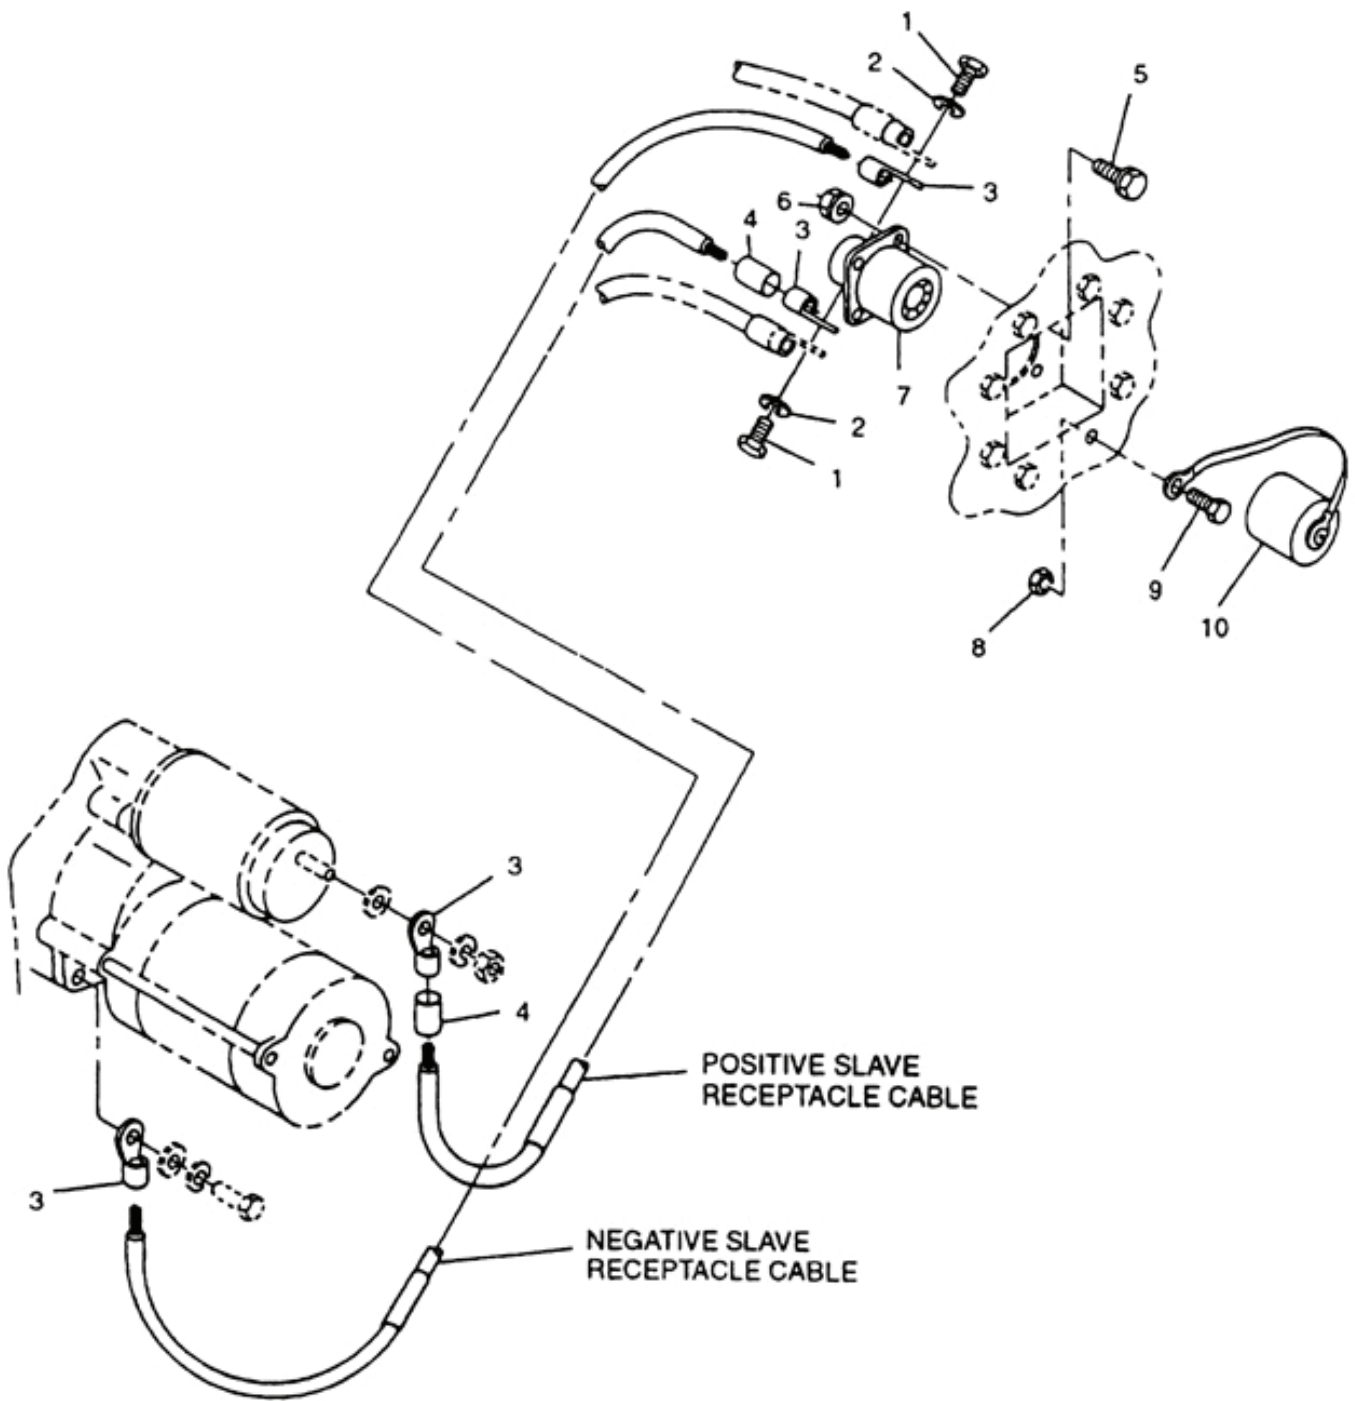

Figure 2-4. NATO Slave Receptacle and Cables.
- c. Open left side engine access door and tag and disconnect battery and slave receptacle cables from slave receptacle (7, Figure 2-4) by removing bolts (1) and lock washers (2). Discard lock washers (2).
- d. Remove bolts (5), nuts (6), and NATO slave receptacle (7) from generator set housing.
- e. Remove nut (8), bolt (9), and cover (10) from generator set.
- a. Insert NATO slave receptacle (7, Figure 2-4) into left side lower door sill.
- b. Secure receptacle (7) with bolts (5) and nuts (6).
- c. Connect slave receptacle and battery cables to slave receptacle (7) with bolts (1) and new lock washers (2). Remove tags.
- d. Install cover (10) on generator set with bolt (9) and nut (8).